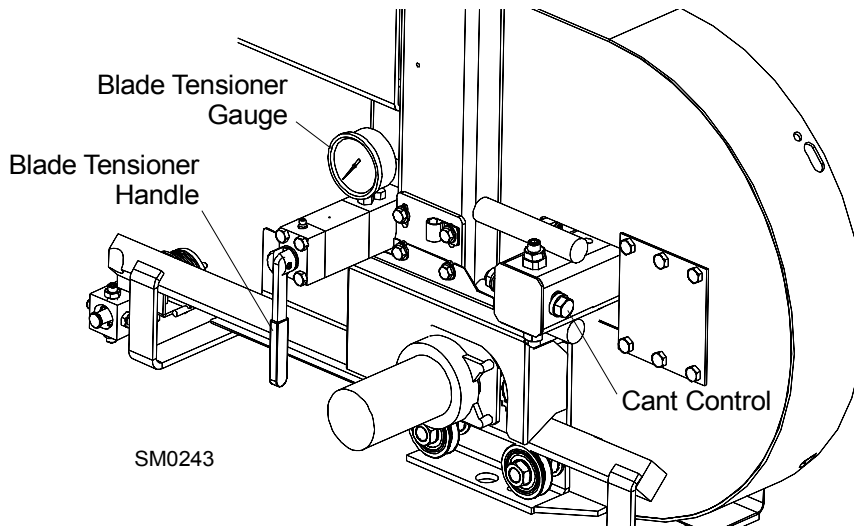

FIG. 2-5
See Figure 2-5. Tension the blade by turning the hydraulic tensioning handle clockwise until the tension gauge indicates the recommended tension.
5. To adjust where the blade travels on the blade wheels, use the cant control shown in **Figure 2-5**.